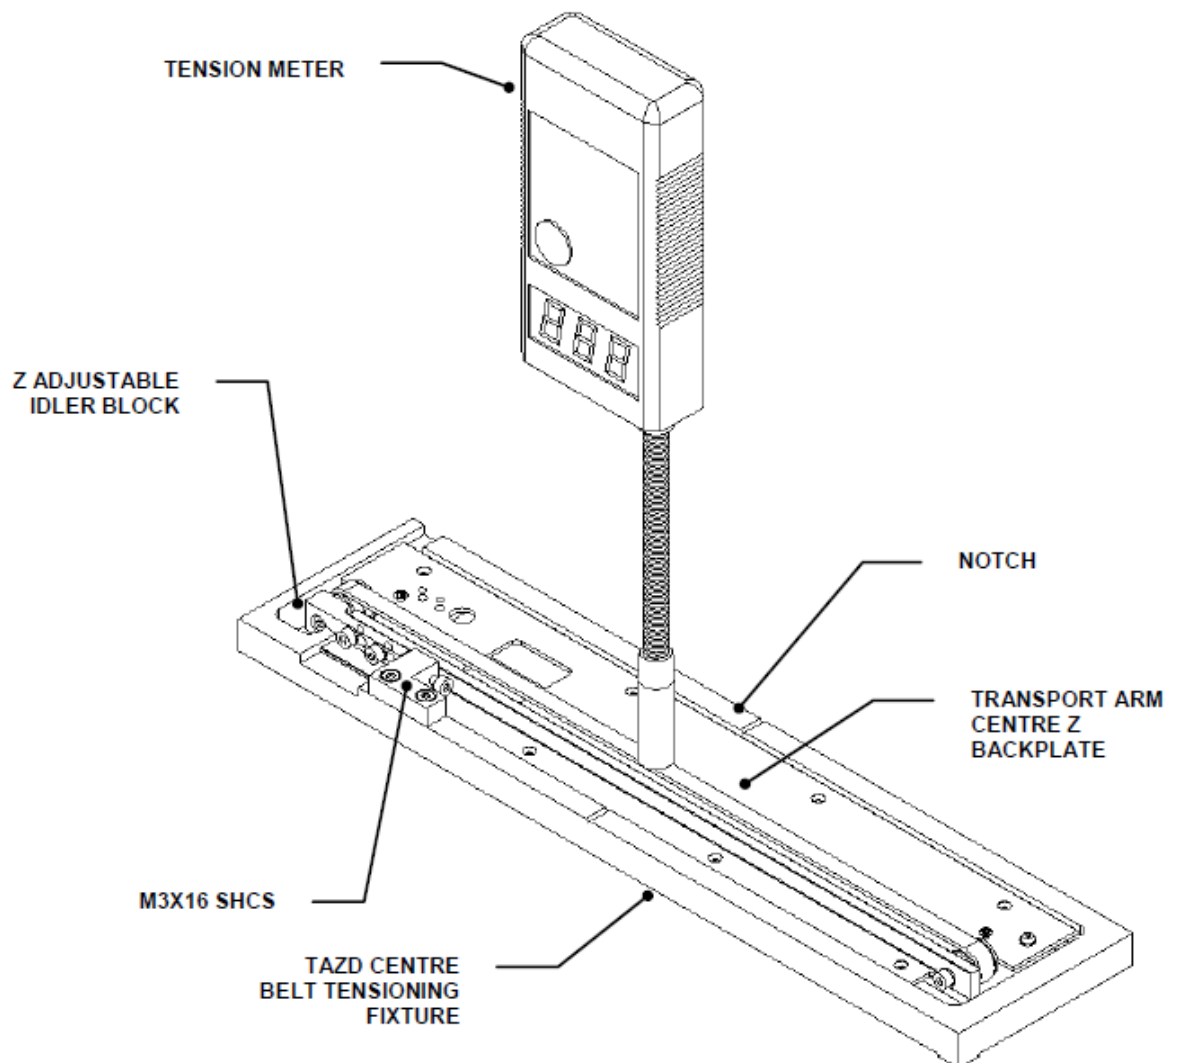

Figure Z-29: Inserting the Assembly in the Tensioning Fixture
3. Insert the Transport Arm Centre Z Backplate assembly into TAZD Center Belt Tensioning Fixture (P24FIX026) and position the Gates Sonic Tension Meter 570C at the position indicated in Figure Z-29 approximately in line with the notch in the fixture. The Tension Meter must be 3-6mm away from the belt to obtain a reading.